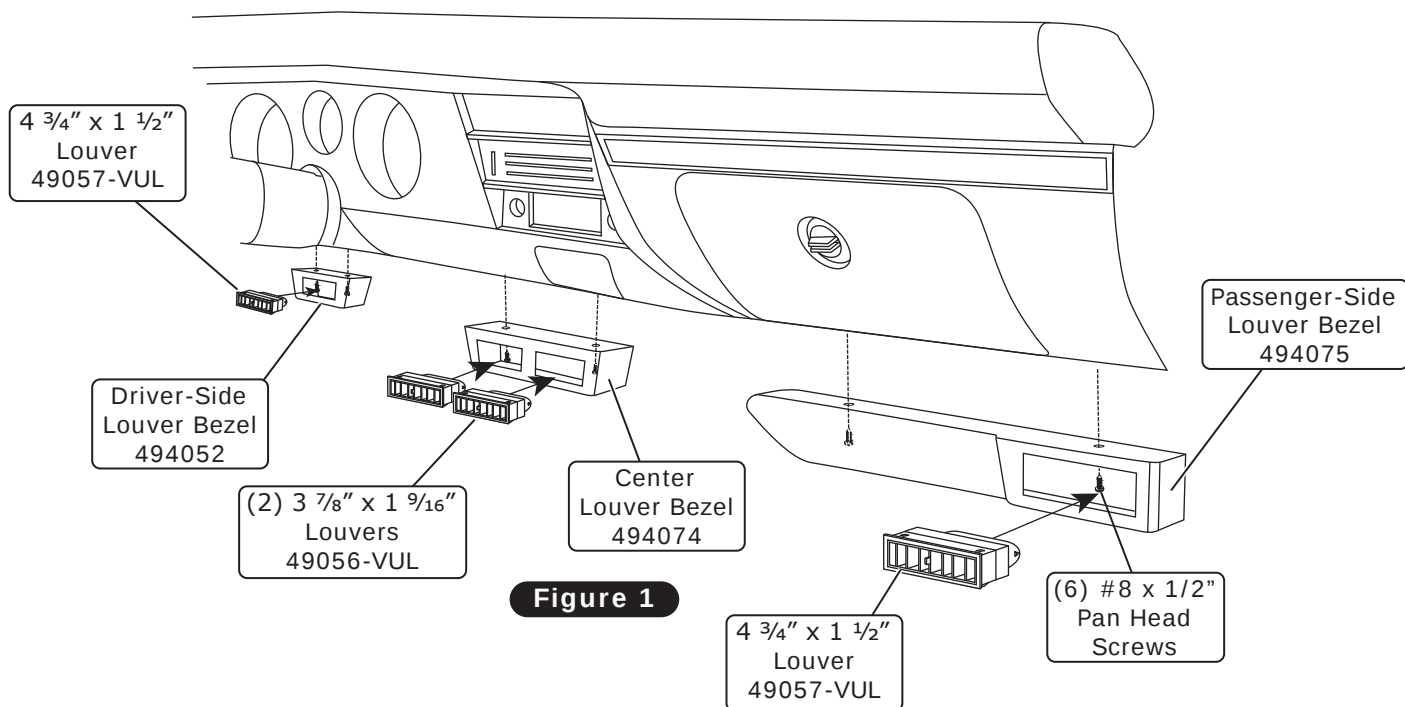

Figure 1
2. Install louvers in housings as shown in Figure 1, below.